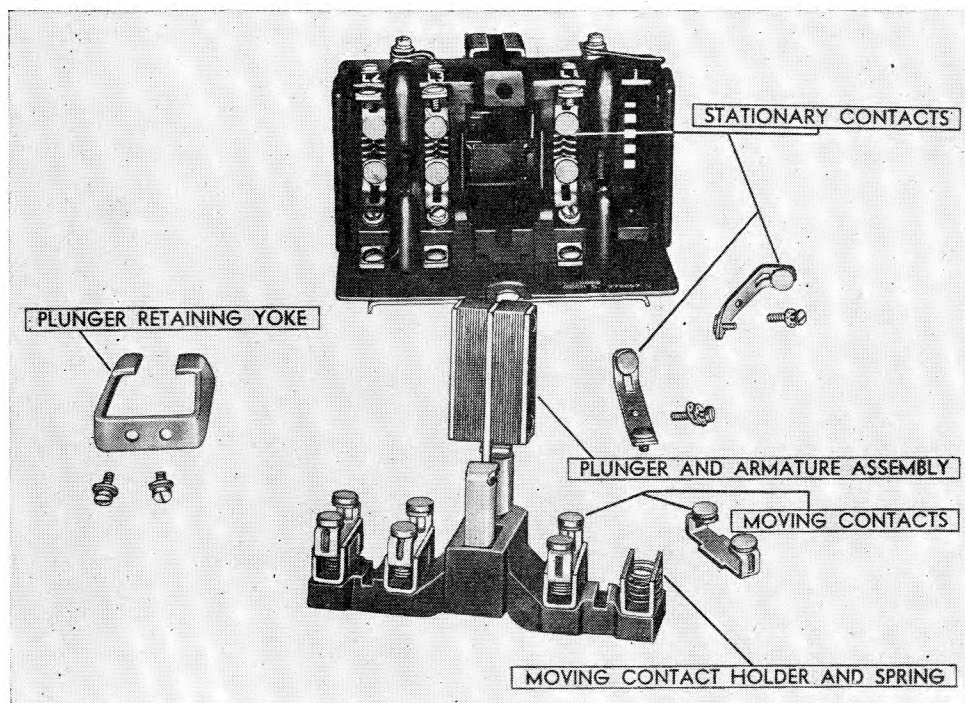

Fig. 3—Contactor K302 stripped
- 159.** (a) Refer to fig. 3. Remove from the bottom of the relay the micro switch, held in place by a screw and hexagonal nut.